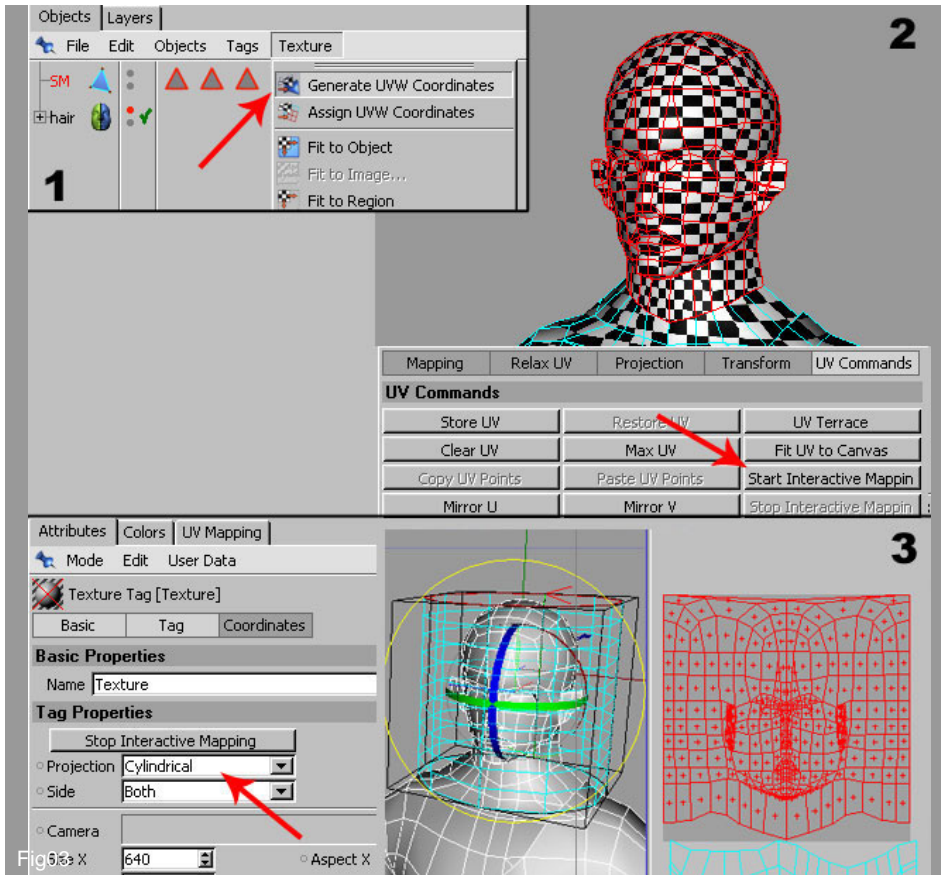

Fig03
3. To correct this we will use the Interactive Mapping that is a procedure to unwrap the mesh by applying different projections on any parts of the object. Switch your interface from Standard to the BP UV Edit and here start the procedure from the head. First select the texture tag and from the object manager menu choose Texture > Generate UVW Coordinates ( step 1 - Fig03). The mesh now is editable. Select all the poly's that make up the head and neck area as seen in step 2 - Fig 03. Then in UV Commands click on Start Interactive Mapping button. Choose the Cylindrical projection like shown in the step 3 of figure then click on Stop Interactive Mapping to stop the procedure.